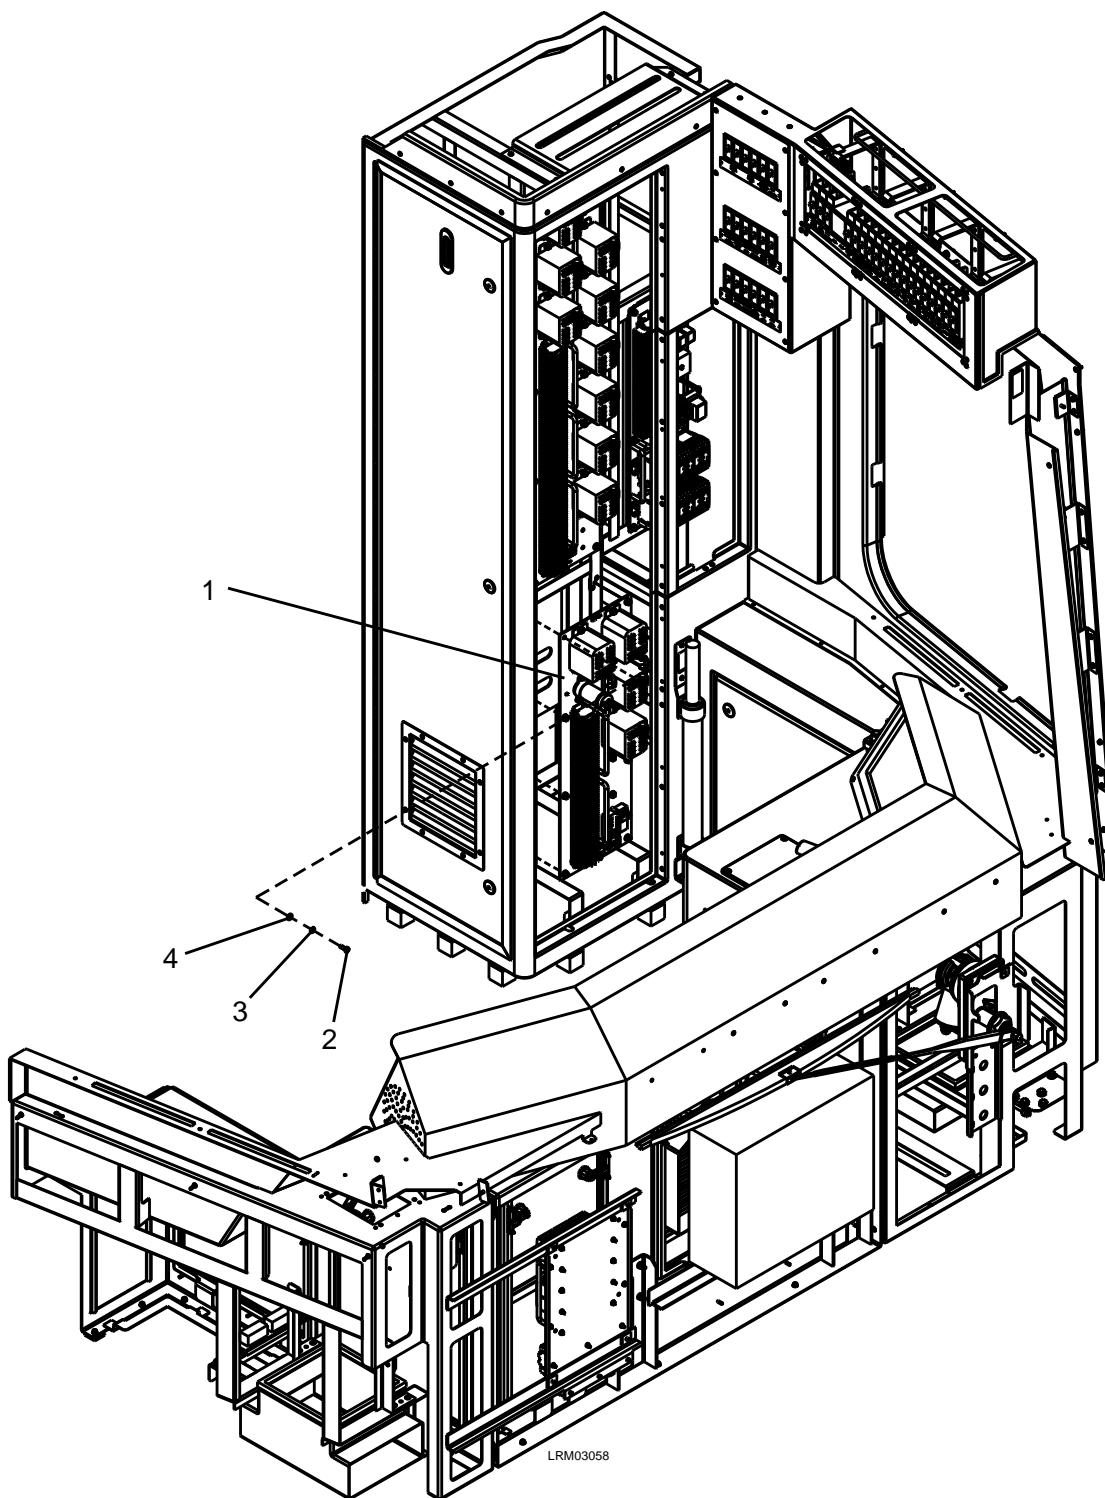

Figure 7-39: CRP3A and CRP3B Panel
2. Disconnect the WAGO terminal electrical connections to the CRP3A / CRP3B Panel (1). See Figure 7-39.
3. Remove the eight M6 x 16 bolt (2), M6 lock washers (3), and M6 plain washers (4).
4. Carefully remove the CRP3A / CRP3B Panel (1).